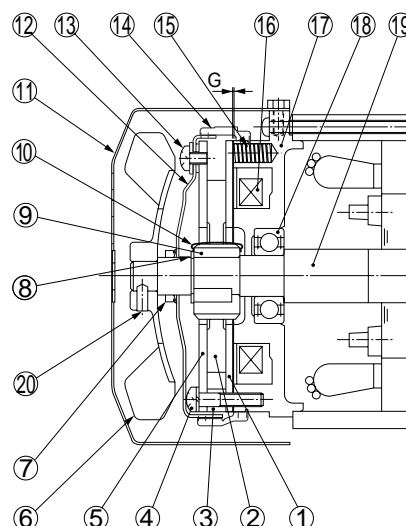

Fig. 21
- (9) Turn on and off the power and check the braking operation.
- (10) Install the V-ring. Clean the lip of the V-ring and the contact surface of the lip, and apply a small quantity of grease to the lip surface, Strictly observe the mounting dimensions (B=4.5 mm). (See Fig. 21)
- (11) Install fan 6 and cover ⑪. Apply a small quantity of locking agent (Three Bond 1102) to fan set bolt ⑳.